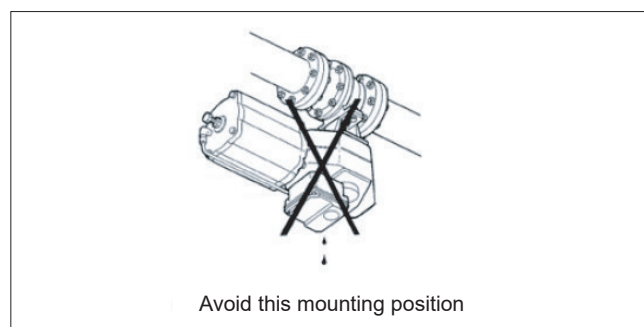

Fig. 3 Avoid this mounting position
5. It is not recommended to install the valve with the stem on the underneath side because dirt in the pipeline may then enter the body cavity and potentially damage the stem packing (see Figure 3).
Install the valve in the pipeline so that the shaft is horizontal if possible. However, Valmet does not recommend installing the valve with the actuator on the underside (Figure 3) because dirt in the pipeline may damage the gland packing.